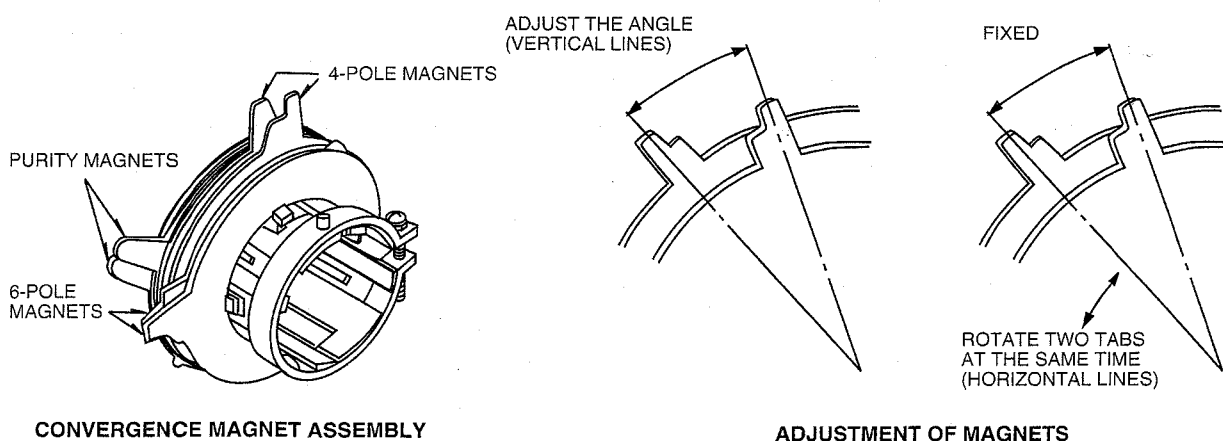

Fig. 16
- (f) Rotate and spread the tabs of the purity magnet (see Fig. 16) around the neck of the picture tube until the green belt is in centre of the screen. At the same time, centre the raster vertically.
- (c) Adjust two tabs of the 4 Pole Magnets to change the angle between them (see Fig 16) and superimpose red and blue vertical lines in the centre area of the picture screen. (See Fig. 17)